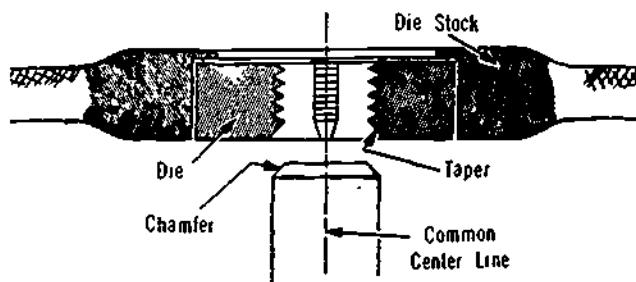

Figure 17-32. Chamfer Ground on End Before Starting Die
- a) To cut threads on a piece of round stock, first grind a chamfer on the end of the rod as shown in Figure 17-32. This aids in starting the die and also inserting the finish thread into its final location.